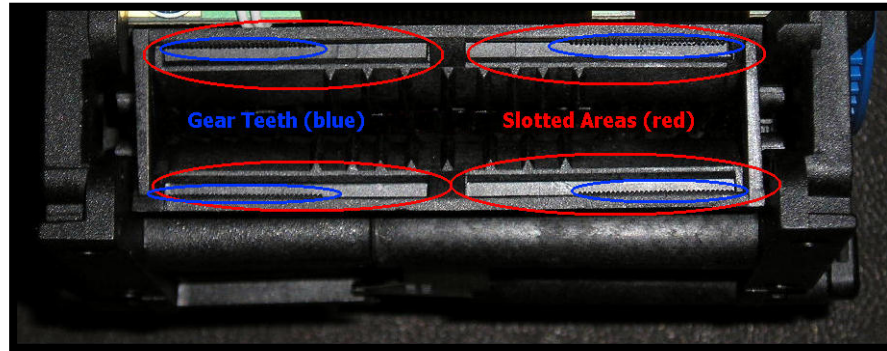

Figure 10
2. Note that the paper guide has four tabs that are intended to engage the printer. Two tabs are at the end of the arms, and two tabs are near the slotted "funnel". Locate the slotted area at the back of the printer. (See figure 10.) Position the tabs on the funnel end in the middle of the slotted area of the side in which you will mount them, making sure to be clear of the gear teeth molded into the printer, then press down until these two tabs snap into place.